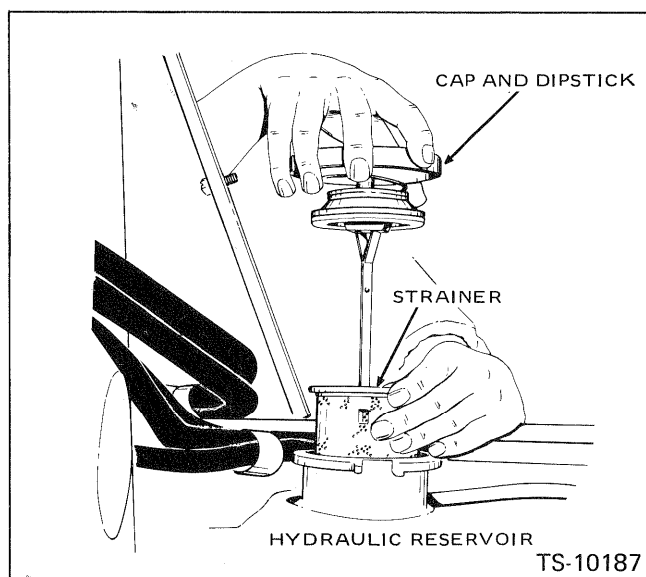

Fig. 10-1 Hydraulic Reservoir, Cap, Dipstick and Strainer
Remove the reservoir cap and dipstick and wipe with a clean, lint-free cloth. Replace the cap and dipstick to check the oil level. Maintain the oil level to the **FULL** mark on the dipstick. Fig. 10-1
6. Refill the transmission and torque converter with the type of fluid specified in this manual through the filler neck (Fig. 10-1) until the correct level shows on the dipstick. Approximate capacity—4.5 gallons (Imperial measure), 5.4 gallons (U.S. measure).